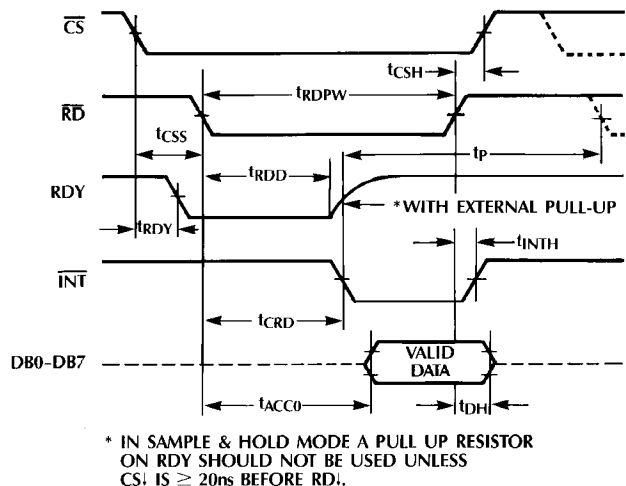

Figure 2. RD Mode Timing
**AC Performance Read Mode (Pin 7 = 0V), Figure 2**
AC Performance Read Mode (Pin 7 = 0V), Figure 2 (Continued)
The timing for the  $\overline{\text{RD}}$  mode is shown in Figure 2. To do a conversion,  $\overline{\text{CS}}$  must be low to select the device. After  $\overline{\text{CS}}$  goes low, the RDY output goes low indicating that the device is ready to do a conversion. The conversion starts on the falling edge of  $\overline{\text{RD}}$ . While  $\overline{\text{RD}}$  is low, the MSB and LSB decisions are made with internally generated clock edges. When the conversion is complete, RDY goes high and  $\overline{\text{INT}}$  goes low signaling the end of the conversion. After  $\overline{\text{INT}}$  goes low, the data outputs go from high impedance to active state with valid output data. Data stays valid until either  $\overline{\text{RD}}$  or  $\overline{\text{CS}}$  goes high. When either signal goes high, the output data lines return to the high impedance state and  $\overline{\text{INT}}$  returns high. A pull up resistor on RDY in the sample and hold mode will cause clock injection, degrading the total unadjusted error, unless  $\overline{\text{CS}}$  is  $\geq 20\text{ns}$  before  $\overline{\text{RD}}$ .